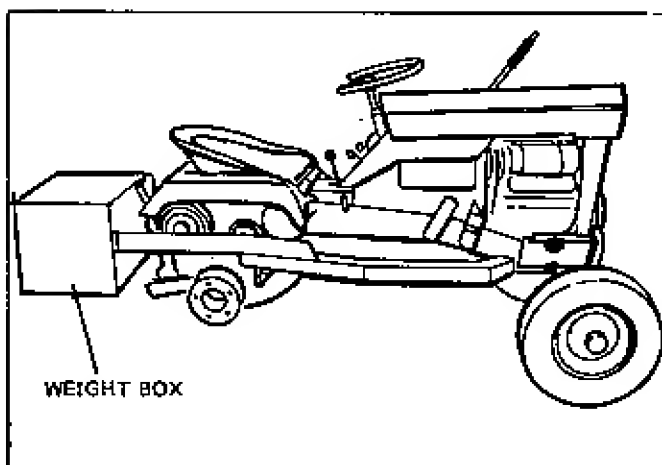

Figure 6.
7. Install weight box using the  $1/2 \times 1-1/4$ " capscrows, lockwashers and nuts. See Figure 6.